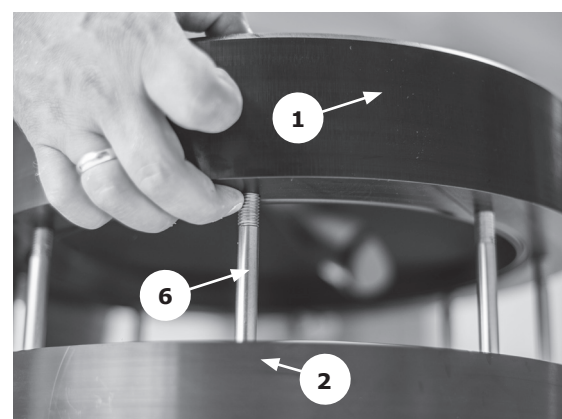

Figure 7
Push the assembly pins through the holes of the air section (2) and the liquid housing (1). (see figure 7).